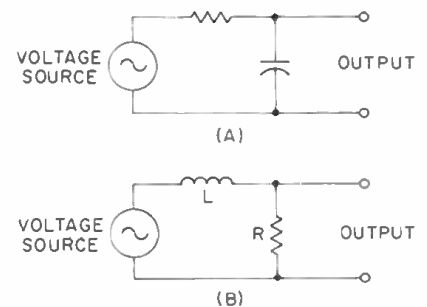

Figure 1. At (A) an R-C circuit; at (B) an R-L.
Time constants refer to circuits having a resistance and capacitance, or resistance and inductance. *Figure 1* shows two circuits we are all familiar with. In (A) a voltage generator is driving a series circuit containing R and C; the output voltage is taken across C. In (B) a voltage generator is driving a series circuit containing R and L; the voltage output is taken across R. The response of both circuits is the same. At low frequencies the output is flat (see *Figure 2*). At frequency F the reactance equals the resistance and the response is down 3 dB. This is called the knee of the curve. One octave below the knee ($\frac{F}{2}$) the response is 1 dB down, and on one decade below the knee ($\frac{F}{10}$) the response is 0.1-dB down. One octave above the knee ($2F$) the response is 7-dB down, and the curve will gradually approach 6-dB-per-octave as frequency increases.
The time constant of the R-C circuit of *Figure 1(A)* and *3(A)* can be derived by equating the resistance to the capacitive reactance: